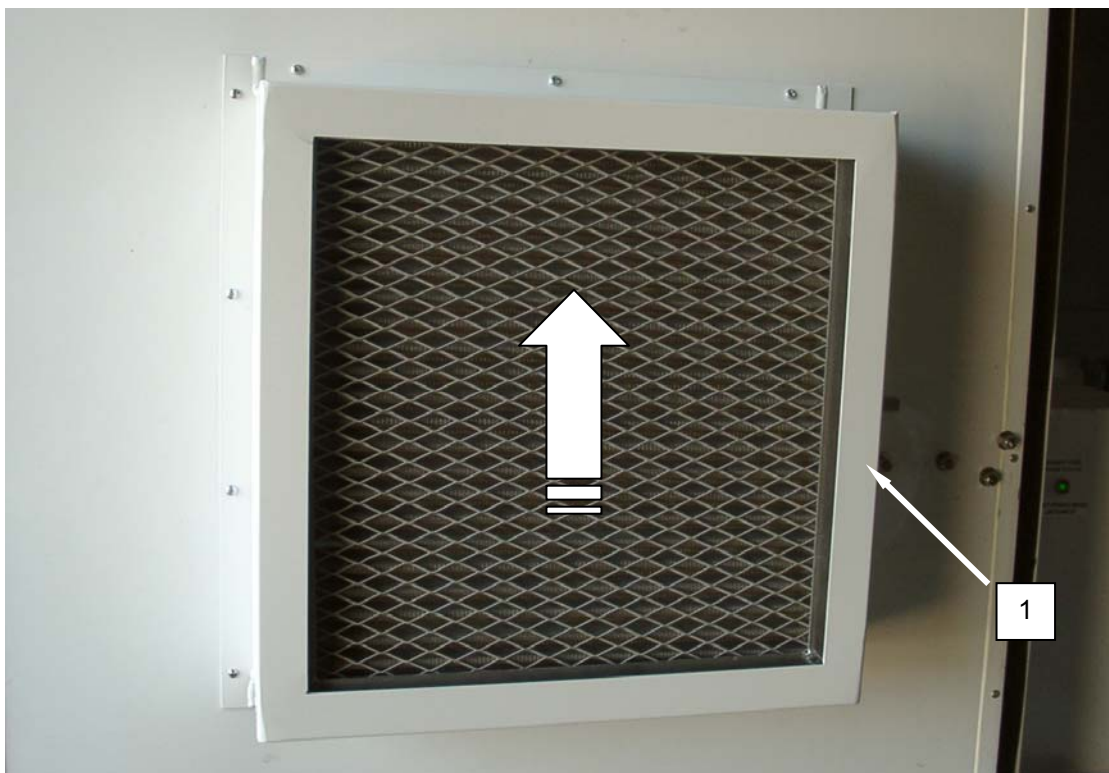

Figure 1. Clean the Door Filters.
1. Remove door filter (**Figure 1, Item 1**) from filter mount in door.
3. Install filter (**Figure 1, Item 1**) into filter mount.